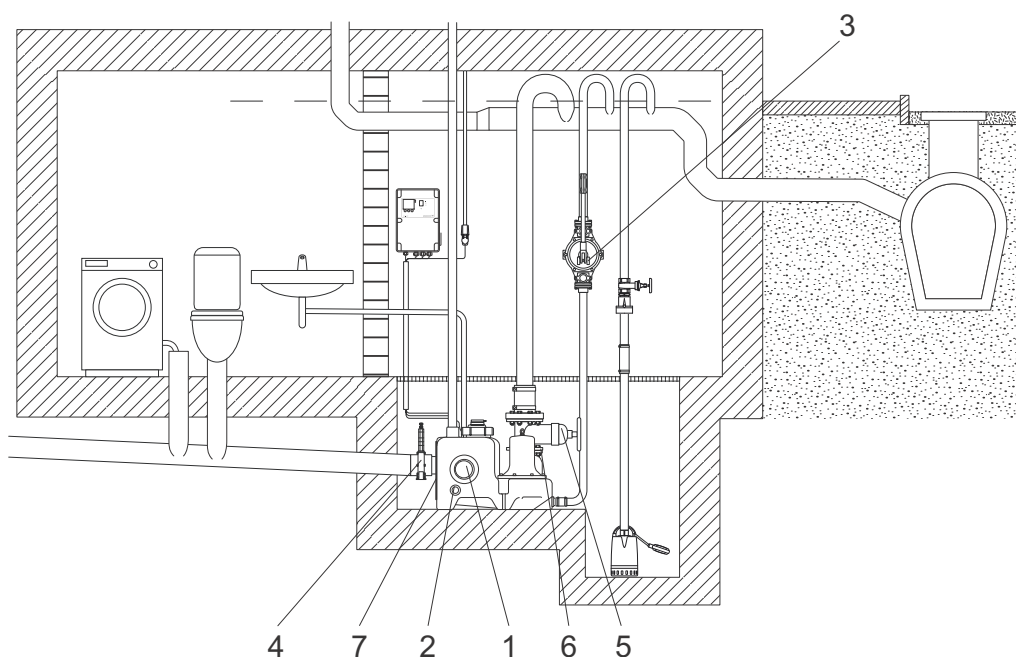

Fig. 15 Installation sketch
- Provide a pump sump below the floor level. If a lifting station is installed in a basement with the risk of penetrating groundwater, it is advisable (in certain countries required) to install a drainage pump in a separate pump sump below floor level in order to drain the room. See fig. 15.
- All outlet pipes from lifting station, diaphragm pump and drainage pump must have a bend above the local backwater level. The highest point of the bend/reversed water seal must be above street level. See fig. 15.